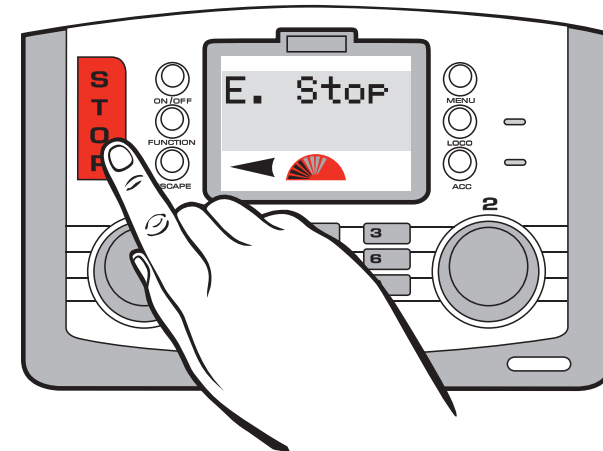

Fig 1
1. Press the **STOP** button located on the Elite Unit. See Fig 1.